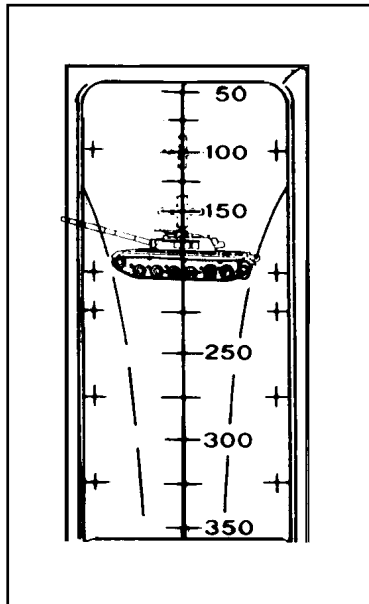
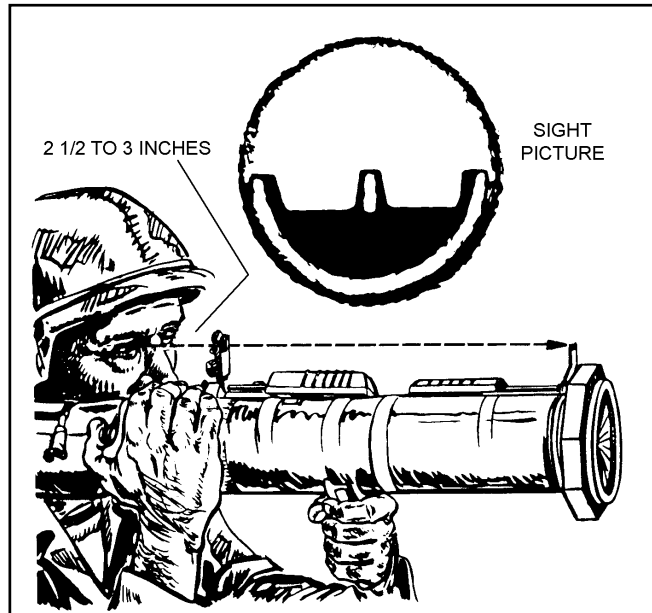

Figure 4-3. Sight alignment for the M72-series LAW.
Figure 4-4. Sight alignment for the M136 AT4.
b. **Sight Alignment.** Align the sights correctly with the target. To do this for the M72-series LAW, position the rear sight so that your eye is near and in line with the peephole in the rear sight. Look through the peephole at the front sight reticle and place the range line that corresponds to the target's range on the target (Figure 4-3). To do this for the AT4, position the rear sight so that the white semicircle of the front sight is a hazy line around the bottom half of the rear sight opening. Position the front sight posts on the target (Figure 4-4). Align the sight by moving your head forward or backward.